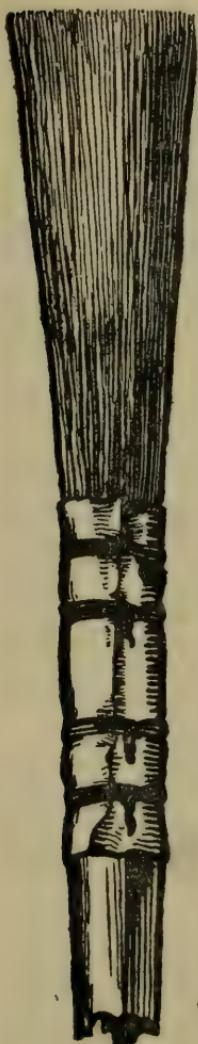

FIG. 41.
*The Stipple.*—When you have put on your matt with the camel-hair brush, take a stippling brush (fig. 41) and stab the matt all over with it while it is wet. A great variety of texture can be got in this way, for you may leave off the pro-